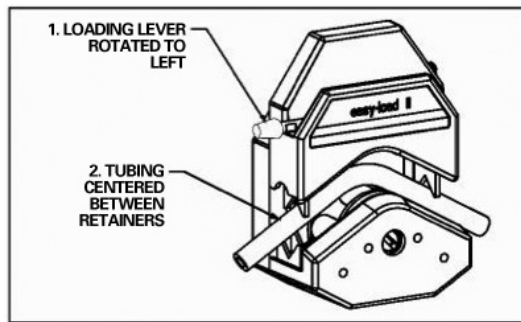

Figure 1: Open and Load Pump Head
Please use Masterflex L/S® tubing only. Center the tubing between the retainers as shown in Figure 1.
*Note: The Allegro™ I single channel head is shown in Figure 1 & 2. The above instructions also apply to the dual channel head used on the Allegro™ II model and the two stacked single channel heads used in the Allegro™ III model.*